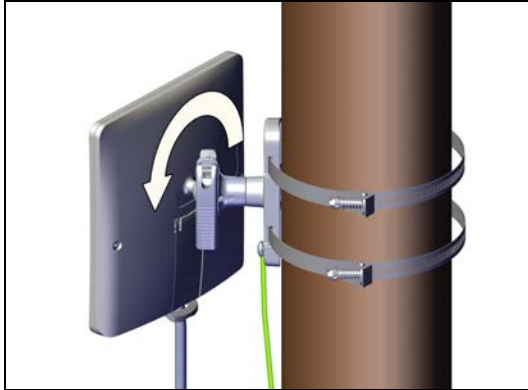

Figure 2-57: Tighten arm on mount: SU **PRO/AIR** EMB radio unit
- Once alignment is complete, tighten the arm on the SU **PRO/AIR** EMB mounting kit (see Figure 2-57 for the SU **PRO/AIR** EMB) or tighten the bolt on the standard mounting kit (see Figure 2-33 for an external antenna, and Figure 2-59 for the SU **PRO/AIR** INT).